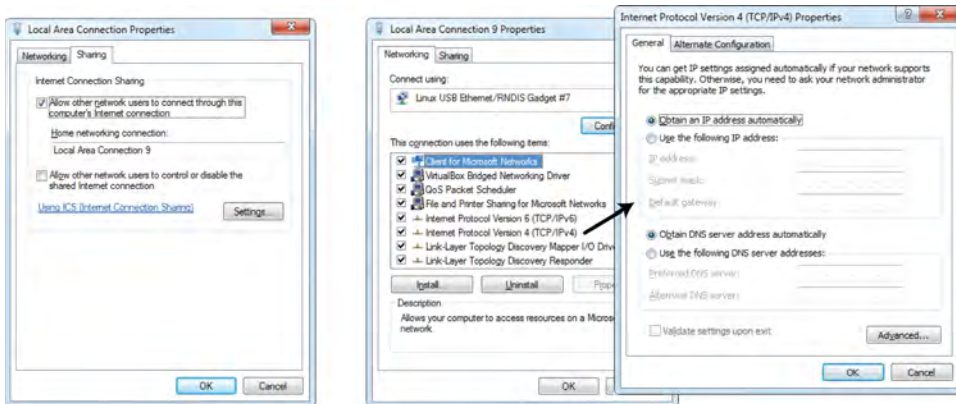

Figure 2-3: Configuring the Network Connection Sharing Properties under Windows
2. In the dialog that appears, as shown on the left-hand side of Figure 2-3, click the Sharing tab at the top and enable the option Allow other network users . . .
5. Double-click Internet Protocol Version 4. In this dialog, select Obtain an IP address automatically and enable Obtain DNS server address automatically (see Figure 2-3 on the right-hand side).